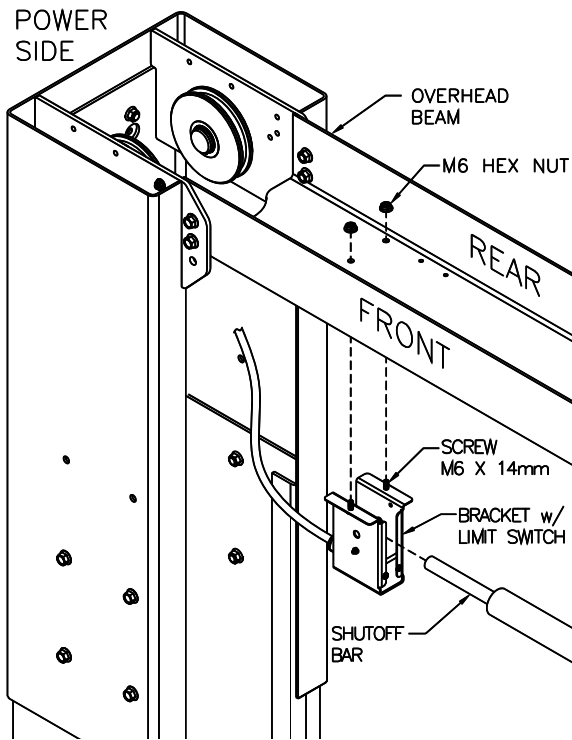

Fig. 9 – Overhead Limit Switch Power Side
- 29) Attach the Overhead Limit Switch to the rear set of holes on the Power Side of the Overhead Beam using the hardware already attached to the switch bracket, **Fig. 9**. **Note: Lay the Junction Box in the overhead to be installed later.**